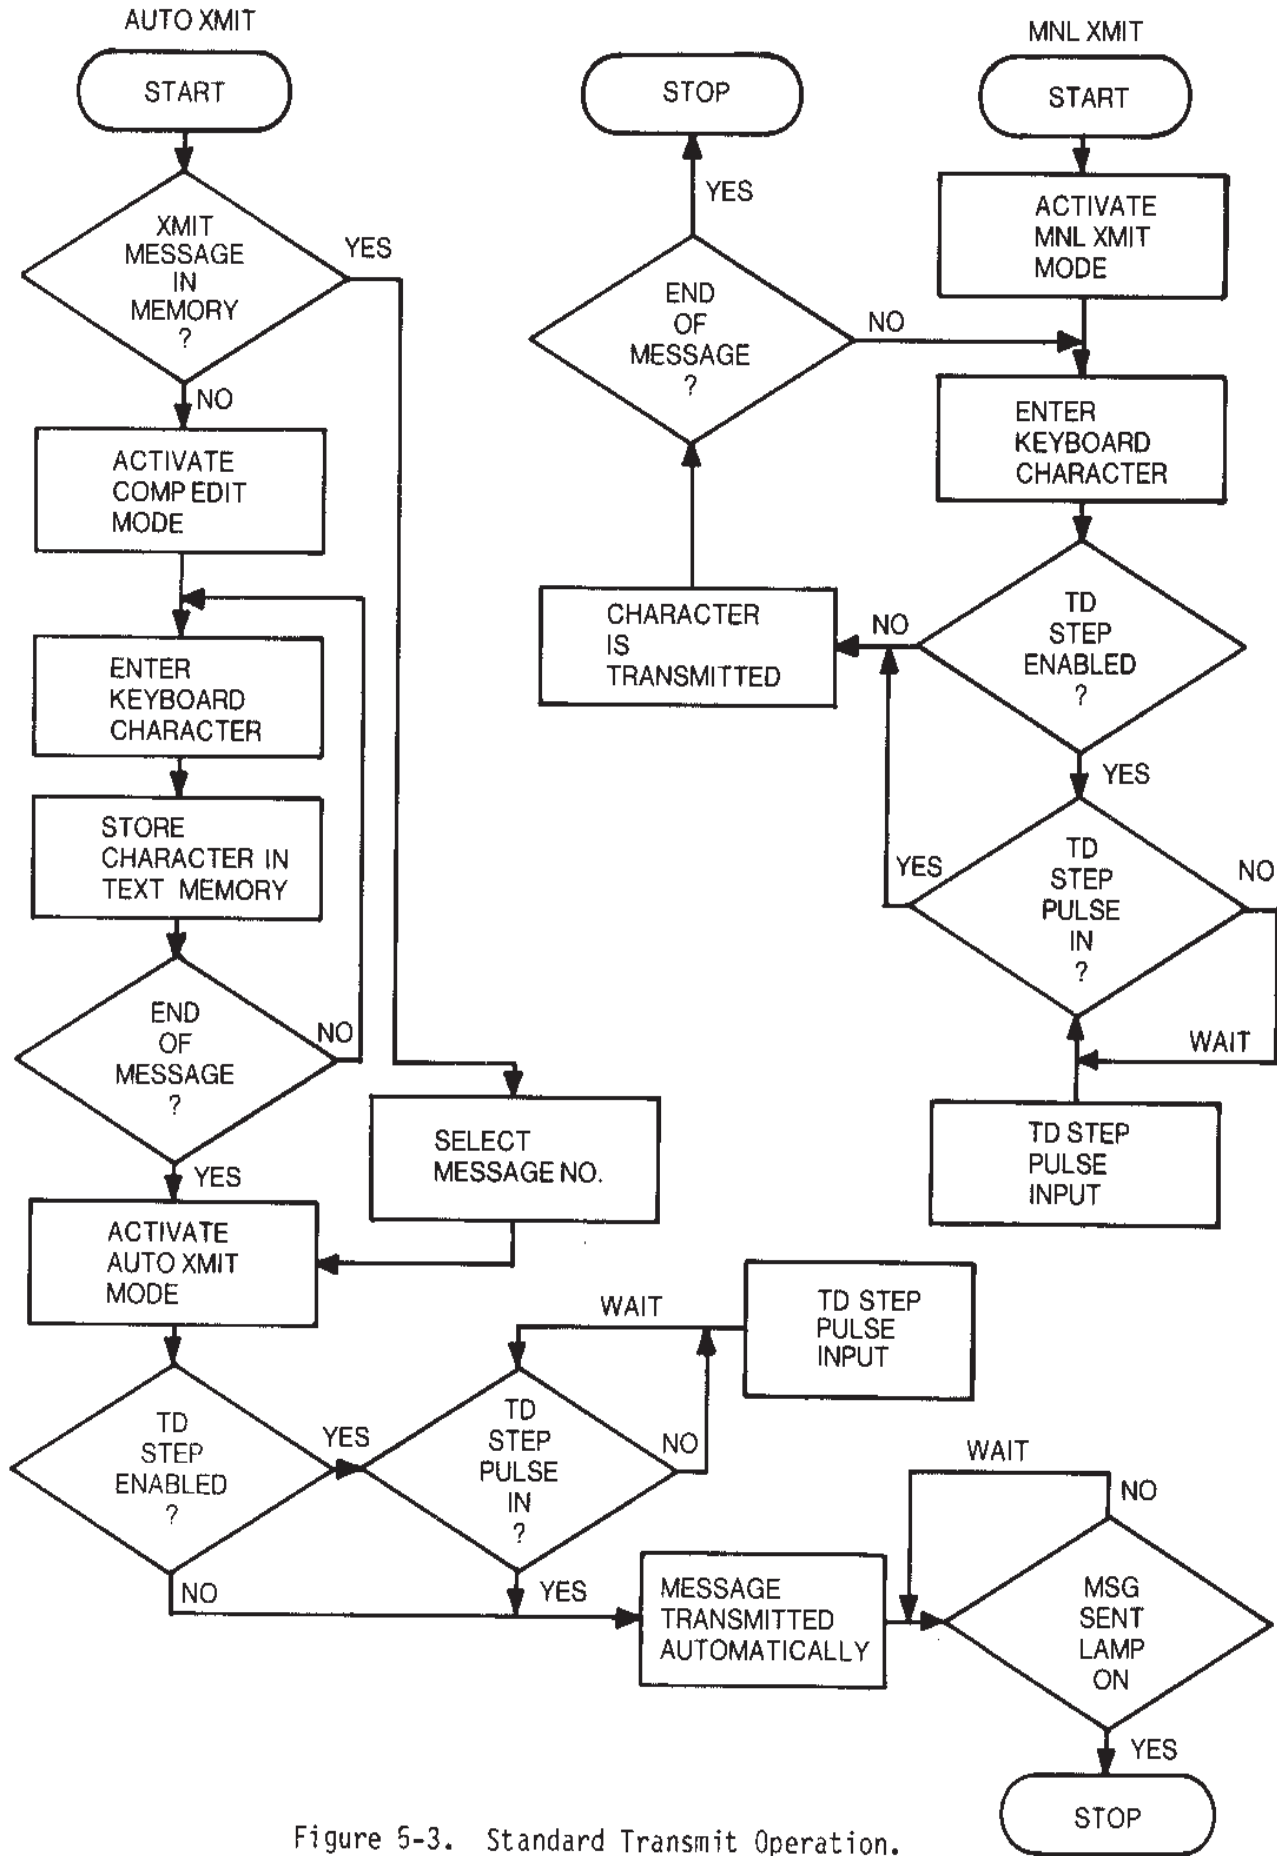

Figure 5-3. Standard Transmit Operation.
d. Standard Transmit Operation. A flow chart of the standard transmit operation sequence is shown in figure 5-3. In the manual mode, the MNL XMIT mode is activated and each character is transmitted as it is entered at the keyboard. In the automatic mode, the AUTO XMIT mode is activated after determining whether the message to be transmitted is already stored in memory. If the message is already in memory, the message number is selected and then the AUTO XMIT mode is activated. If the message is not in memory, the COMP EDIT mode is activated and the message is composed and stored before activating the AUTO XMIT mode. The message is then transmitted automatically. The MSG SENT lamp turns on to indicate end of transmission. In either transmit mode, if the TD STEP function is enabled, the external TD STEP PULSE input must be